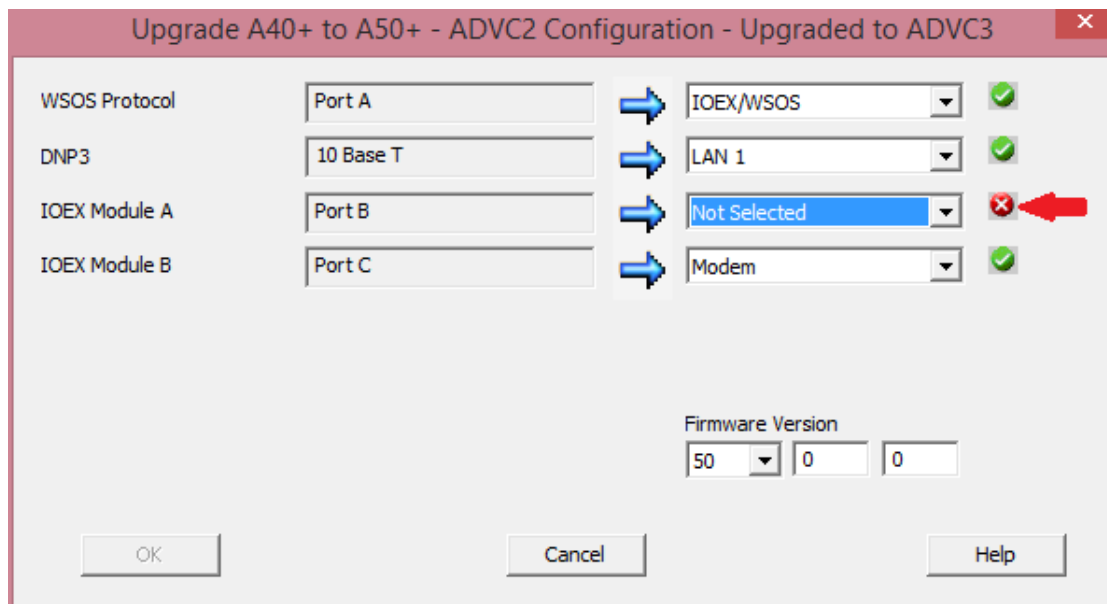

Figure 7: Port reconfiguration - conflict
- If WSOS is unable to map these automatically, then the dialog shown in Figure 7 is displayed. There is an indication provided to show the conflicting port configuration.